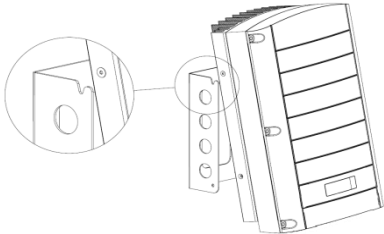
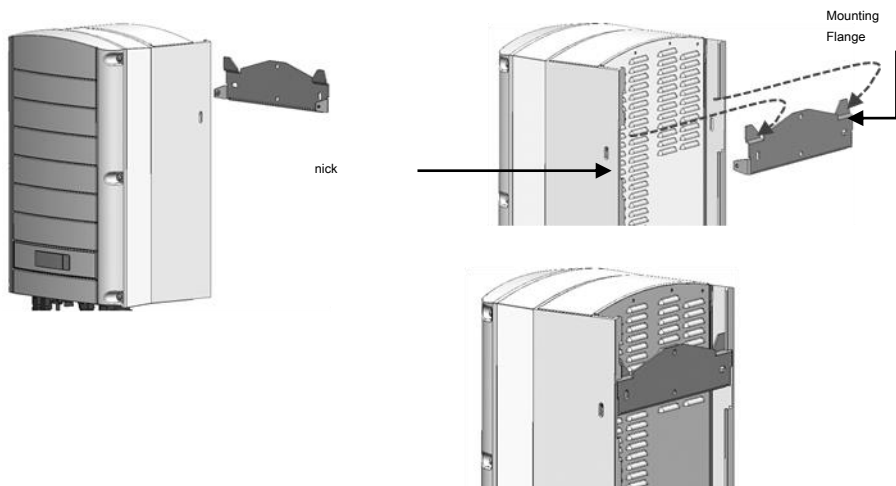

Figure 7: Hang the inverter on the bracket - Type 1
Figure 8: Hanging the inverter to support - Type 2
- For type 2 - Ensure that the flat portion of the support is downwardly as shown in Figure 8
3 Hang the inverter on the support (Figure 7 and Figure 8), lift the inverter on the sides, or enter the inverter from the top and from the bottom to lift the UPS in its place